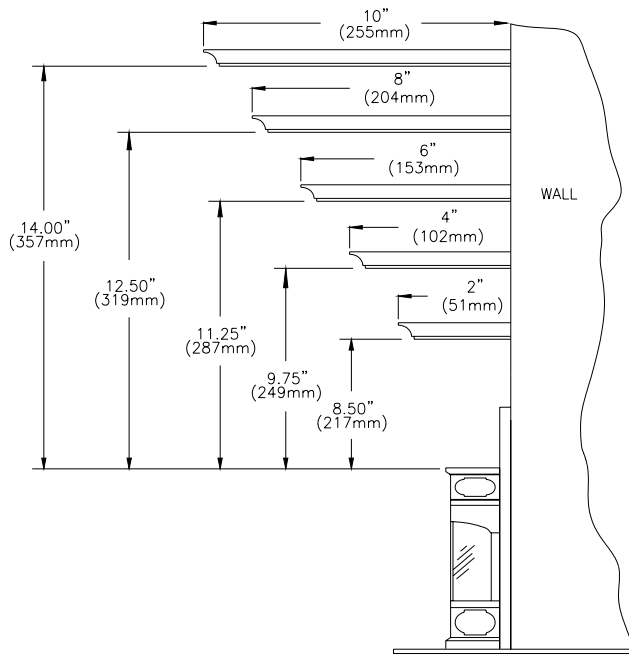

Figure 6
1. For more mantle options see Figure 6